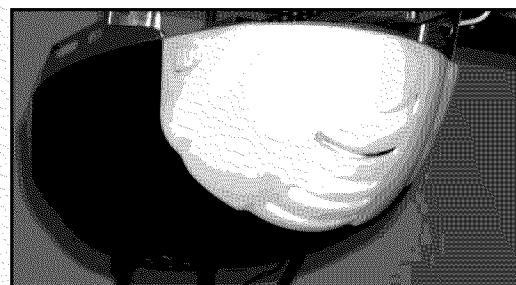

FIG. 9-2 Fasten lens.
- Slide lens onto power head. Make sure the tabs are fully engaged into lens slots (Fig. 9-2).